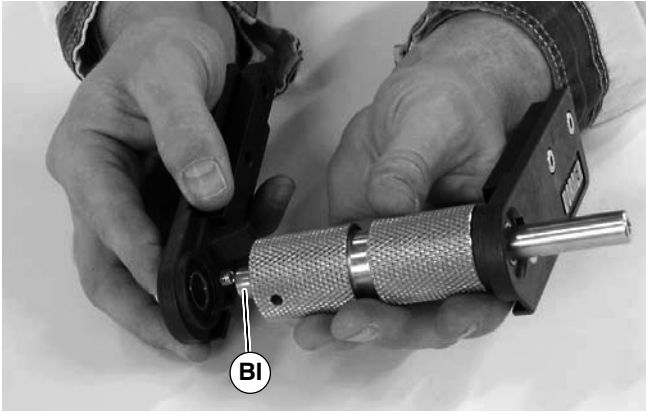

Figure 43
3. With bearing installed in head plate, slide bearing on to stub shaft (BI of Figure 43) of pulley.